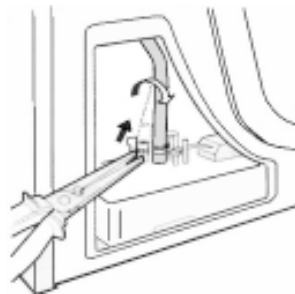

Fig. 2
3. Remove the clamp and carefully remove the hose (Fig 2).